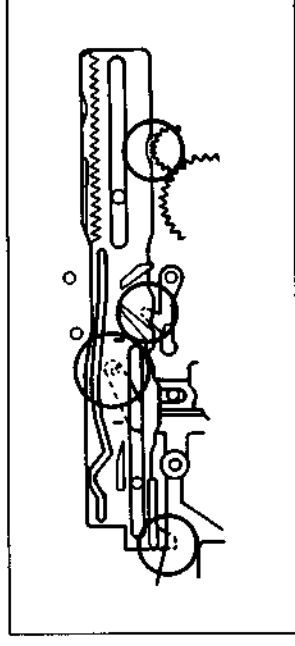
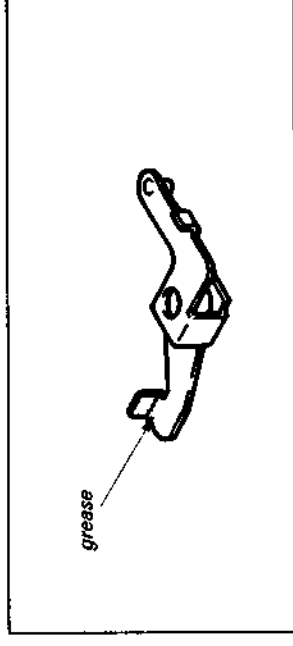

Fig. 7-42.
Fig. 7-43.
- 2) Push mode arm ● in the direction of arrow, and mount the M slider ●, noticing the positioning of the other parts in Fig. 7-42, and mount the stopper washer ●.
- 3) Mount hard brake (S) ● and spring ●.
- 4) Apply grease. (See Fig. 7-43.)